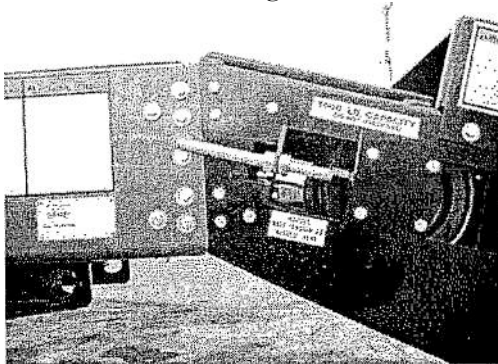

Fig 4-3 Conveyor belt tension is adjusted by turning the adjusting screws at the base at the end of the conveyor.
5.) If the clearance is more than the specified distance, tighten the belt by adjusting the take-up screws at the bottom end of the conveyor (see Fig. 4-3). If the clearance is less than the specified distance, loosen the belt similarly. Running the conveyor with the belt too tight can damage the belt and cause excessive bearing wear.